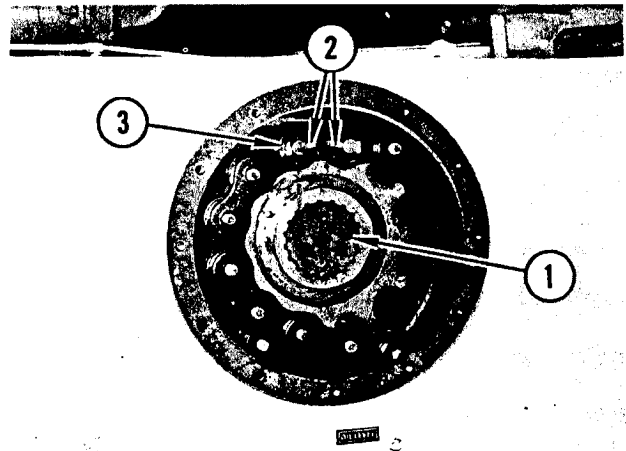

FIGURE 103. TANDEM CHAIN REMOVAL
Refer to Figure 103. Remove lockplate (1) from final drive axle.